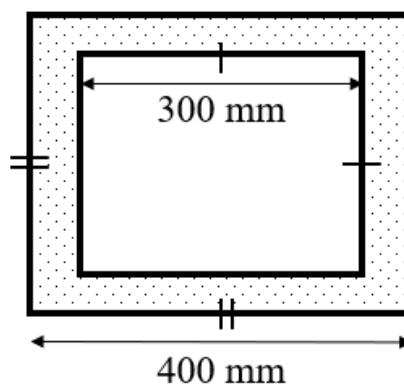

Figure 1(b) / Rajah 1(b)
- CLO1 (b) A column is subjected to a 200 kN tensile force. The cross-section of the column, which includes a hollow section in the middle, is shown in Figure 1(b). Calculate the tensile stress in the bar.